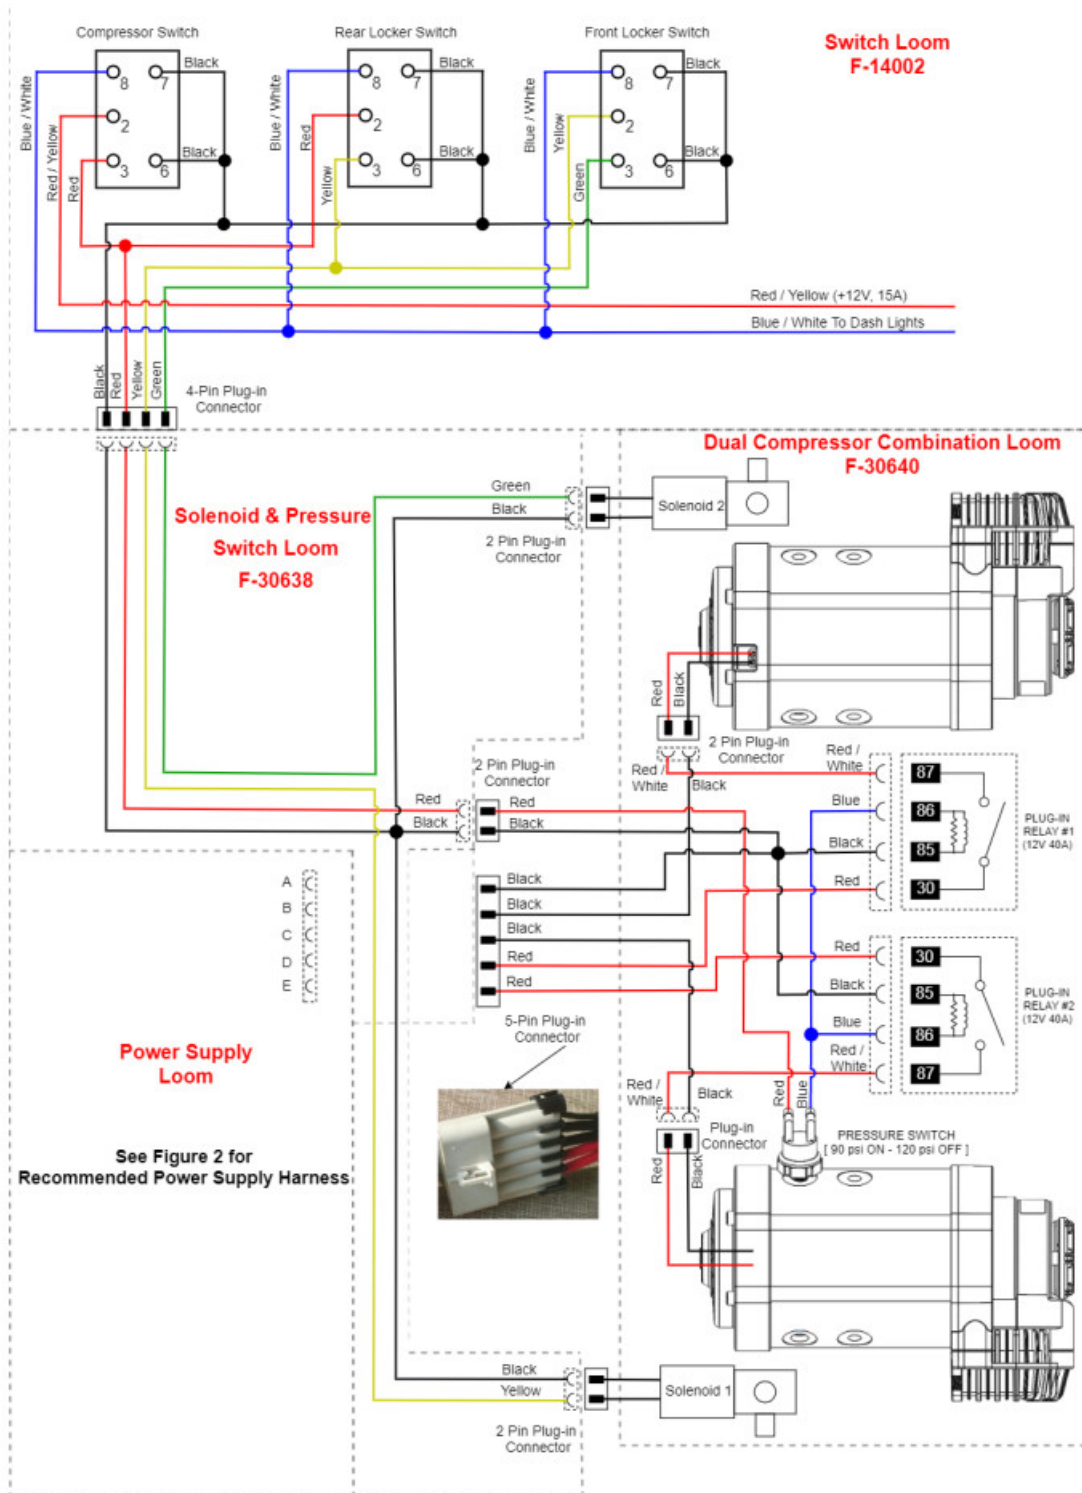

Figure 1 : TJM Pro Series Twin Vehicle Mount Compressor Supplied Wiring Diagram
- The wiring diagram for the compressor, Solenoid/Pressure Switch Harness and Switching Harness can be seen in Figure 1.
- Using the wiring diagram depicted in Figures 1 & 2, plug the correct coloured female terminals to the appropriate switch terminals.
- When wired according to the wiring diagram shown in Figure 1, the switch will illuminate Green when the dash lights are ON, and Red when the compressor is ON.